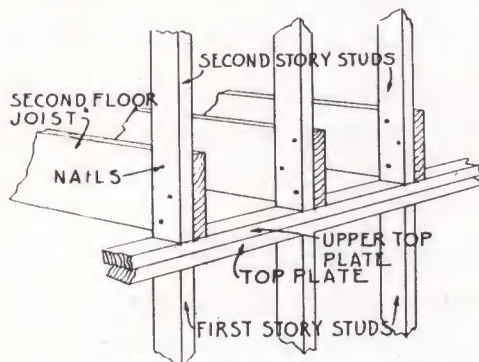

FIGURE 38
First measure off and mark on the upper top plate just where the second floor joists are to go. Follow the measurements shown on the SECOND FLOOR FRAMING PLAN. Check the walls to see that they are plumb and true to a line before nailing the joists down. Take the same care to place the joists, or headers, around the stair-well opening as you did in locating the first floor joists. The second floor outside wall studs are toe-nailed to the upper top plate, directly above the first floor studs. Notice very particularly that the ends of the joists resting on the outside walls must set tight against the second floor studs on the upper top plates. (See Figure 38). The studs and joists will be nailed together to make a very solid construction. (d)
It will be better if the headers around stair-well opening are not nailed into place until the second floor studs are in place. These joists then can be drawn up tight to the studs when nailing. Toe-nail the joists to the upper top plates, as you go along, with 8-penny nails. Nail the outside end of joists to the studs next to them with 16-penny nails (see Figure 38). (e)
- (c) The second story outside walls can be erected in exactly the same manner as any of the methods described for the first story. Toe-nail the studs down into the upper top plates of the first story. Where the ends of second floor joists are beside the studs, nail them together with three 16-penny common nails (see Figure 38). Build in the window openings in these walls as you did in the first story walls.